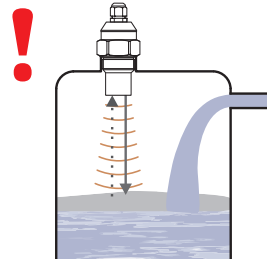

Fig. 5: Thick foam on the surface
- g) Foam on the level absorbs the acoustic wave reflection which might cause malfunction of the level meter. For mounting find the location where the foaming is as low as possible (Fig. 5).